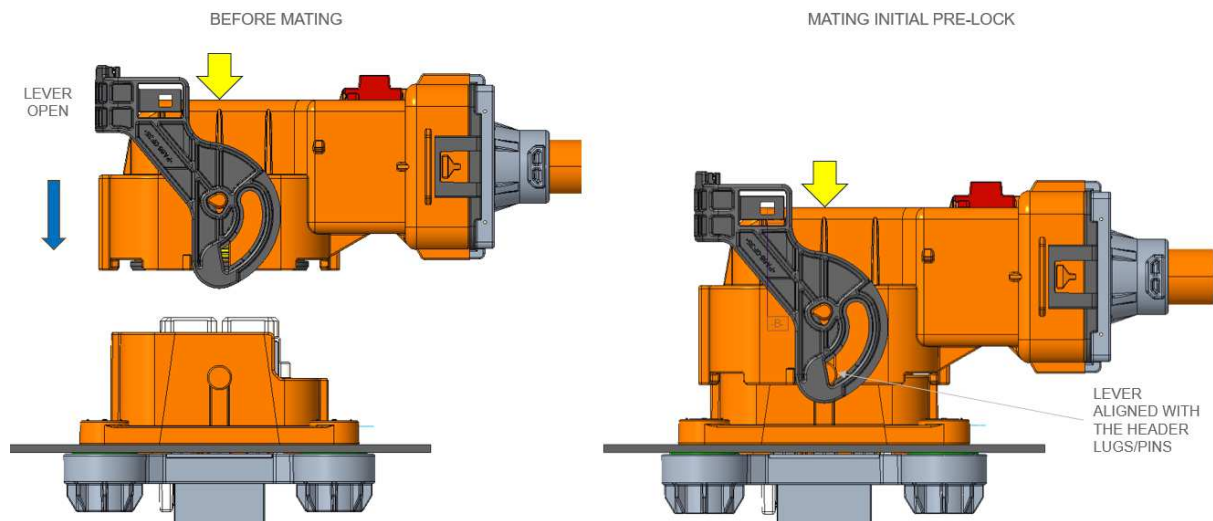

Figure 19: Plug and Header Pre-Lock
3. Holding the plug connector body push the connector halves together until the header ears completely engage with the lever as shown in Figure 19.